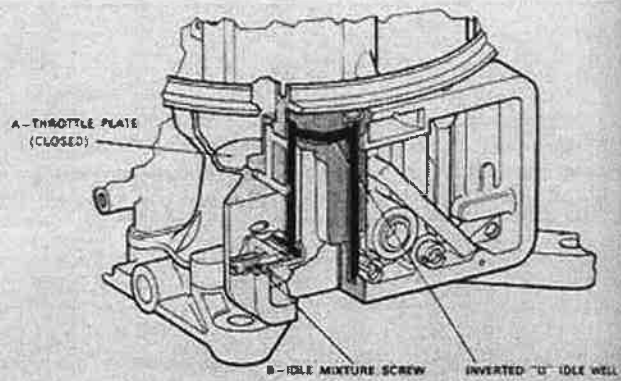

Fig. 4A
2. **IDLE AND METERING SYSTEMS**—*Figures 4A and 4B* show the center and one outboard carburetor idle system. The primary idle system in the center carburetor is an inverted "U" system shown by callouts. With primary throttle plates (A) in the idle position, idle discharge passages below the throttle plates permit fuel to enter the airstream. Idle adjusting needles (B—only one is shown) control the amount of fuel.